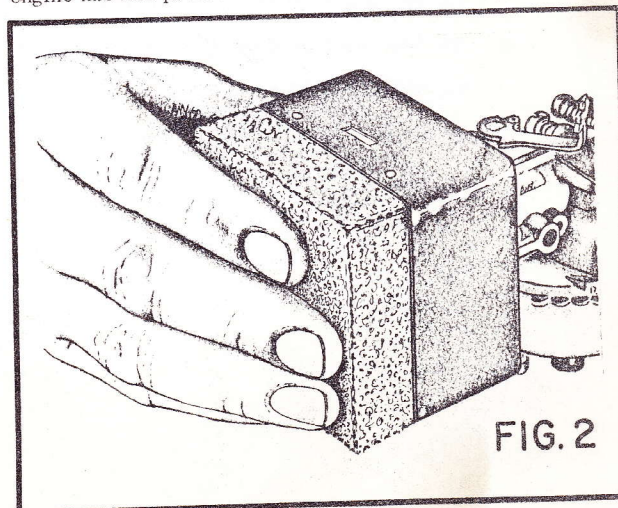

FIG. 2
NOTE 2: The air cleaner base is correctly installed when the two round holes show on the top as seen in Fig. 2.
2. Insert the element into the body by using even finger pressure—see Fig. 2.
3. The cover, item 5, can now be put on and it will be seen that on the top are two indents to correspond with the holes in the body. Snap cover in place.